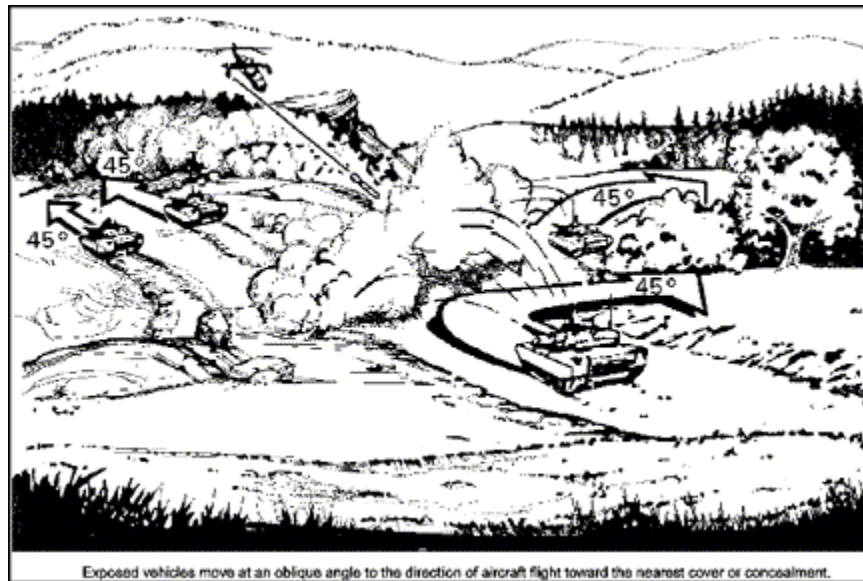

Figure 6-3. Procedures for evading enemy aircraft.
vehicles. The team also may be ordered to continue moving as part of the task force. Figure 6-3 illustrates procedures used to evade enemy aircraft.
- **Step 2 - Create a nonlinear target.** Vehicles move as fast as possible at a 45-degree angle away from the path of flight and toward attacking aircraft (as illustrated in Figure 6-3). Each platoon maintains an interval of at least 100 meters between vehicles, forcing aircraft to make several passes to engage the entire platoon.